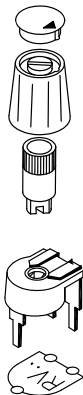

Fig 3.0
- Click the shaft into the tone-control potentiometer and mount the knob on the shaft, fig 3.0